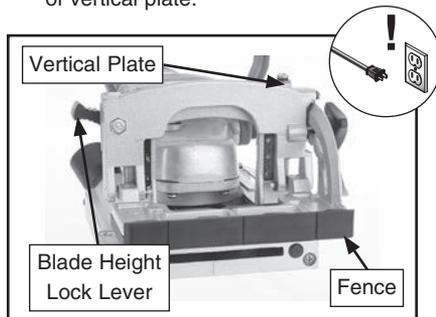

Figure 15. Fence removal components.
2. Loosen blade height lock lever (see **Figure 15**) and slide fence up and off of vertical plate.